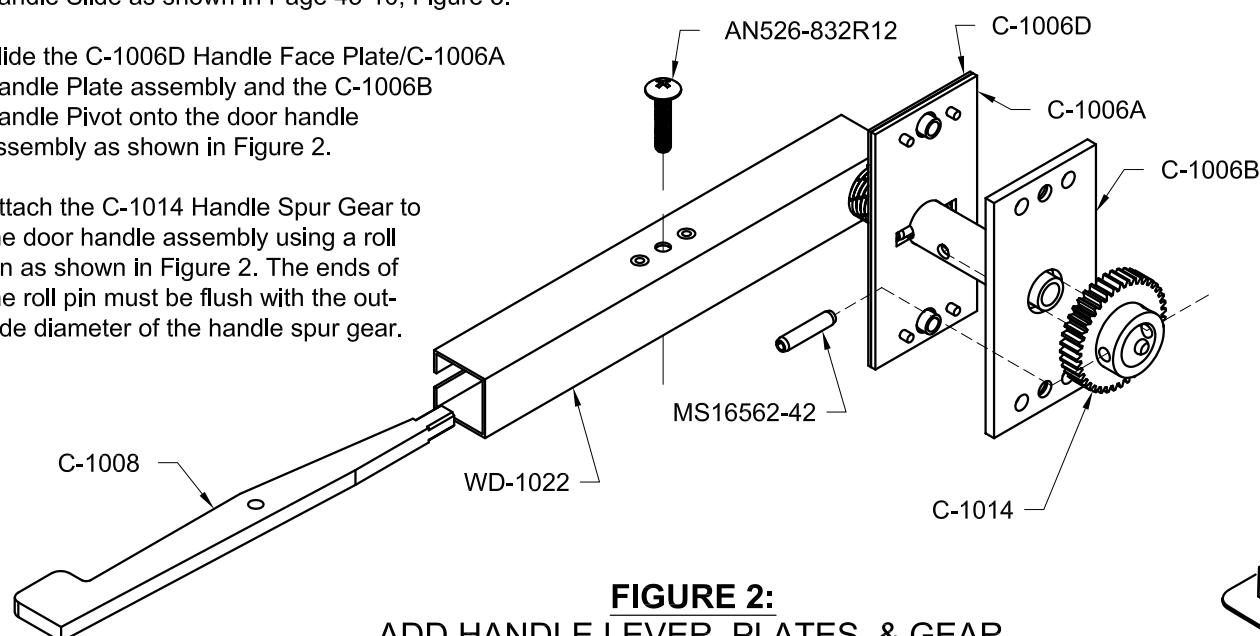

FIGURE 2:
Step 2: Secure the C-1008 Handle Lever to the WD-1022 Door Handle Assembly with a screw as shown in Figure 2. When the handle lever is secured in place, the narrow end must engage the opening in the C-1007 Handle Slide as shown in Page 45-10, Figure 3.
Slide the C-1006D Handle Face Plate/C-1006A Handle Plate assembly and the C-1006B Handle Pivot onto the door handle assembly as shown in Figure 2.
Attach the C-1014 Handle Spur Gear to the door handle assembly using a roll pin as shown in Figure 2. The ends of the roll pin must be flush with the outside diameter of the handle spur gear.